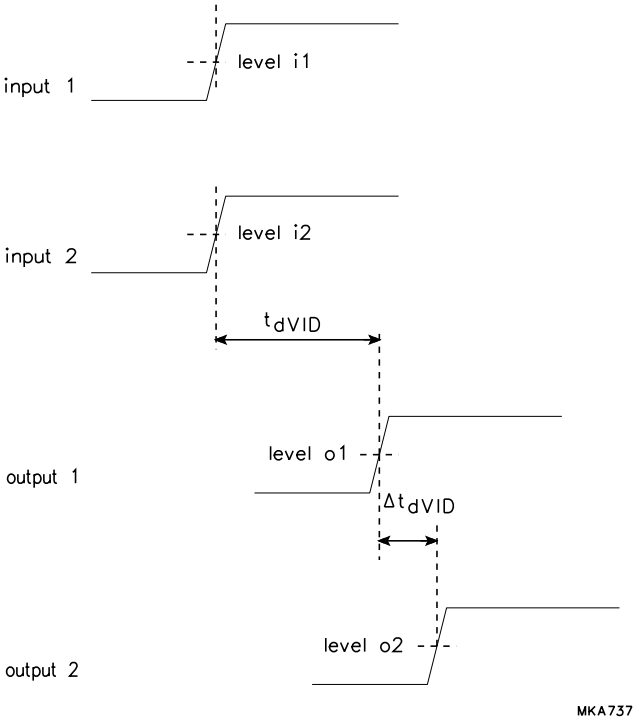

Fig.6 Timing definition: video delay.
7. The video delay between input and output and delay differences are illustrated in Fig.6. Inputs 1 and 2 are either fast blanking input plus a video signal or two video signals. The amplitude of the video signal is 0.5 V (p-p). The video signal levels ($i1$, $i2$, $o1$ and $o2$) are 50% of the video amplitude. The fast blanking signal levels ($i1$ and $o1$) are 0.95 V when the signal rises and 0.5 V when the signal falls.